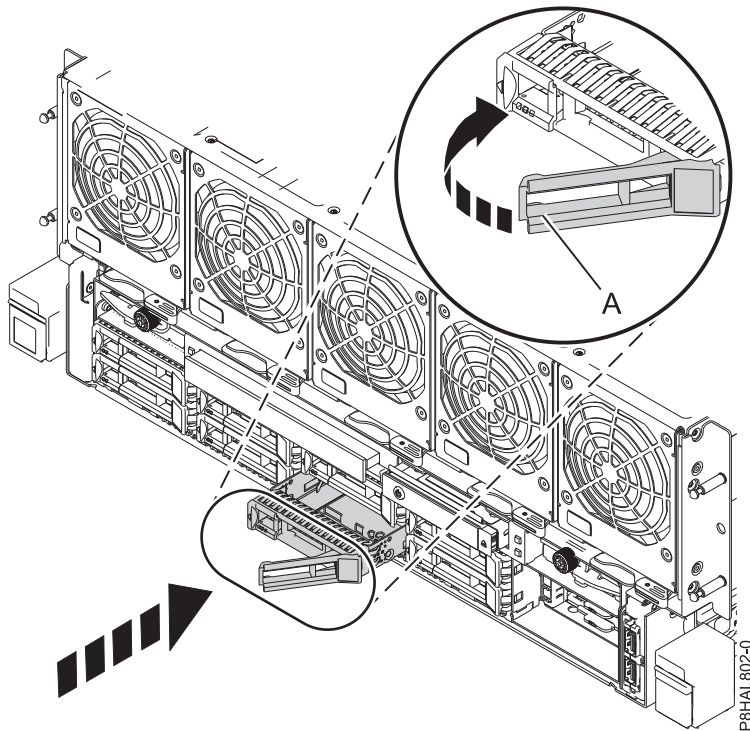

Figure 13. Installing a disk drive in an 8408-44E or 8408-E8E system
4. Unlock the drive bay handle (A) by pressing it and pulling it out toward you. If the handle is not all the way out, the drive does not slide into the system. See Figure 13 on page 22.
8. When the identify LED flashes for the selected slot, slide the drive all the way into the slot, and push the drive bay handle (A) in until it locks, as shown in Figure 13 on page 22.